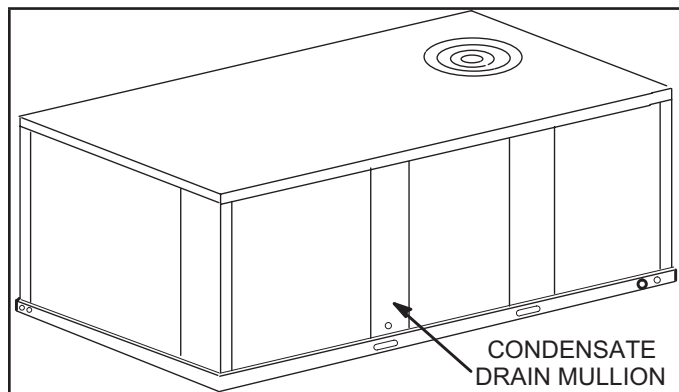

FIGURE 7
- 1 - Remove the condensate drain mullion. See FIGURE 7. Remove the two panels on each side of the mullion.
- 1 - Remove the condensate drain mullion. See FIGURE 7.